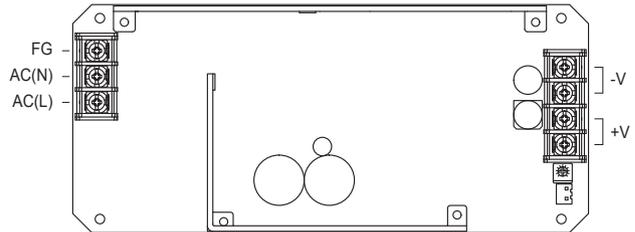

Fig.6.3 Example of option -T
- Refer to fig.6.3 for terminal arrangement.